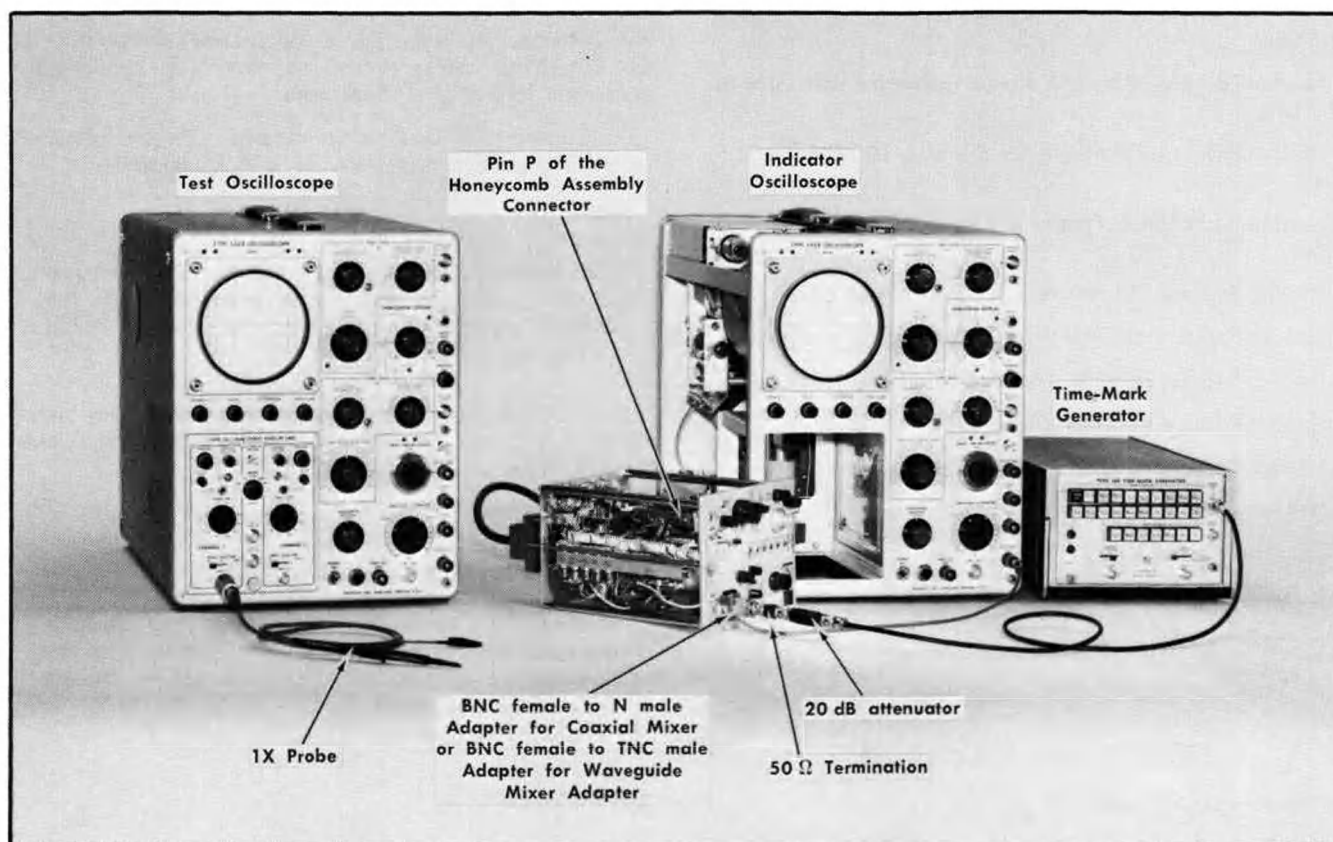

Fig. 5-1. Equipment setup to calibrate dispersion (steps 1 and 2).
a. Equipment setup is shown in Fig. 5-1.
i. Set up the equipment as shown in Fig. 5-1. Set the controls and adjustments as directed for Fig. 5-1.
a. The test equipment setup is shown in Fig. 5-1.
a. The equipment setup for this step is shown in Fig. 5-1.